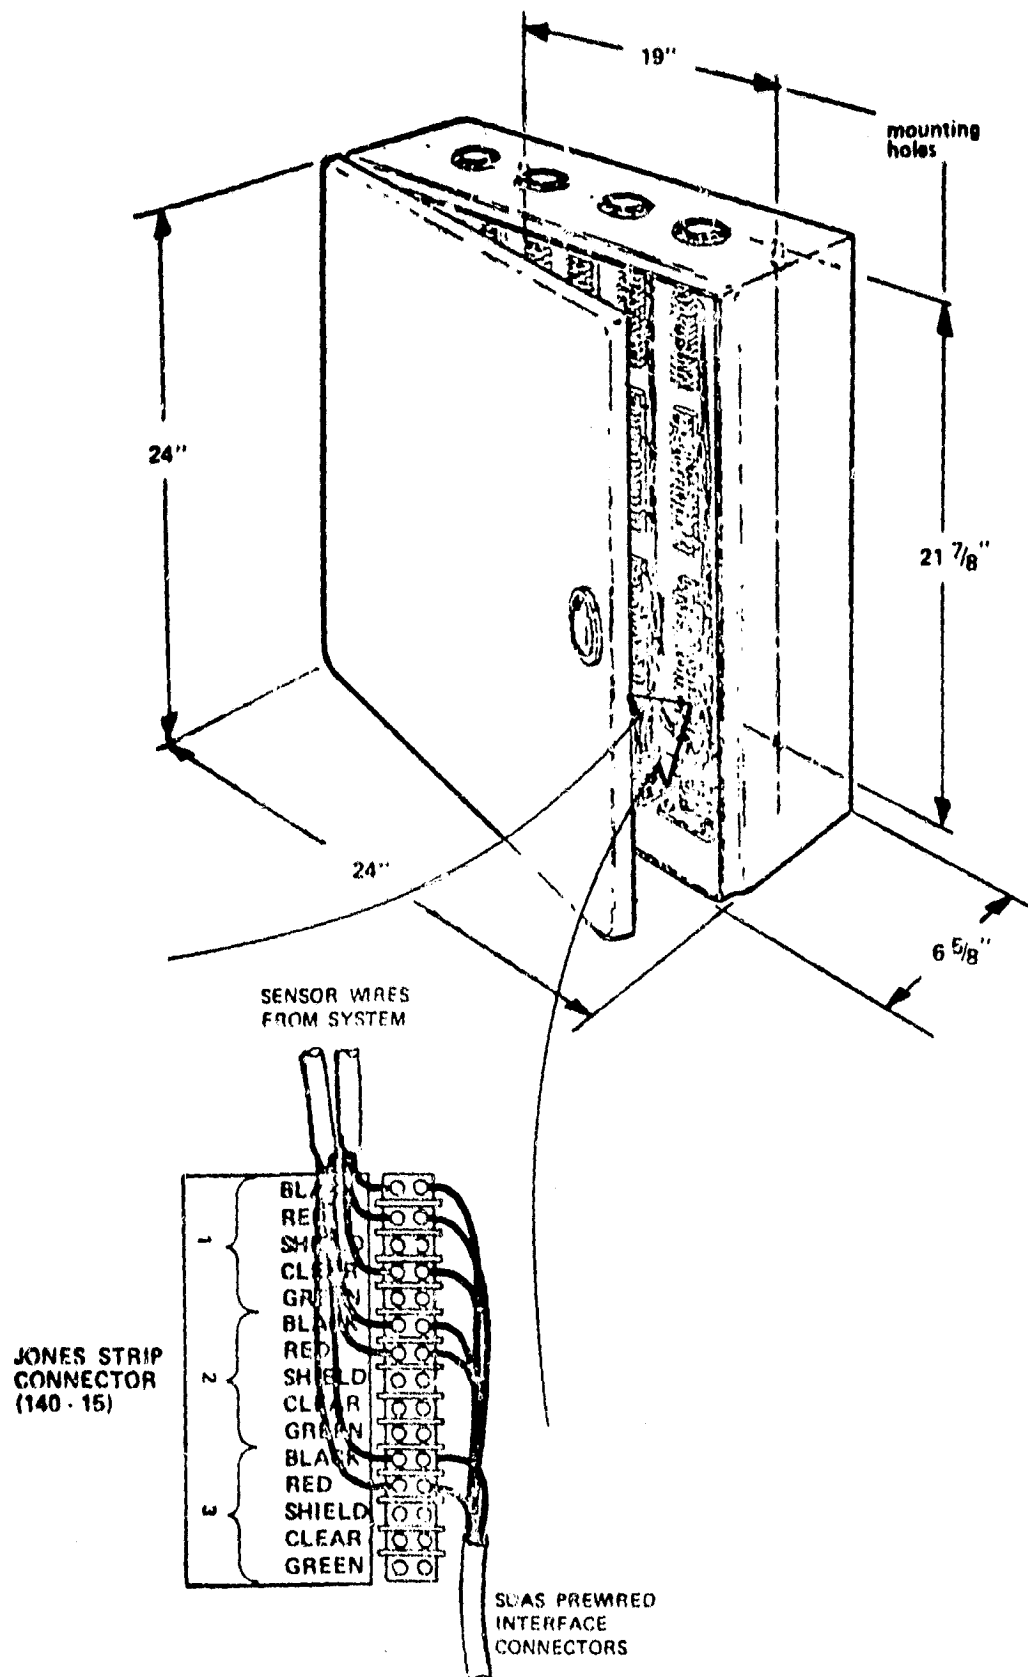

Figure 4. Junction Box/SDAS Interface with typical Sensor connection
ERDA will provide a junction box (Figure 4) to the site contractor for installation in a central location with respect to the solar energy system. The installation location shall be selected by the site contractor and shall be specified in the ISPI.
**Junction Box Location** -- The junction box, Figure 4, shall be mounted by the site contractor so that it is accessible for wiring connections from the sensors and is within four feet of the SDAS location on the same side of the wall.
**Junction Box Mounting** -- At the predefined mounting location, the junction box shall be mounted by the site contractor using the four mounting holes located at the back of the unit. Figure 4 provides the dimensional information for mounting. Depending on the characteristics of the mounting surface, Molly bolts, wood screws, or bolt/nut combinations shall be used to mount the unit. The junction box shall be installed in a top-up orientation.